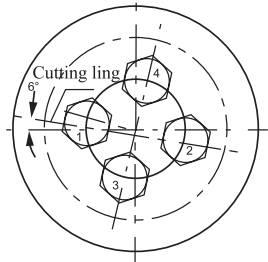

Fig5
3.7.1 Coating some Loctite 242 sealant, tightening the four (4) bolts to 60Nm according to the order shown in fig5.